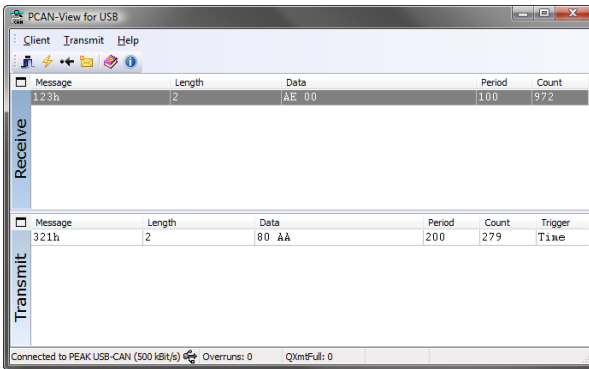

Figure 5: The main window of PCAN-View for Windows
4. Finally confirm the settings in the dialog box with **OK**. The main window of PCAN-View appears (see Figure 5).